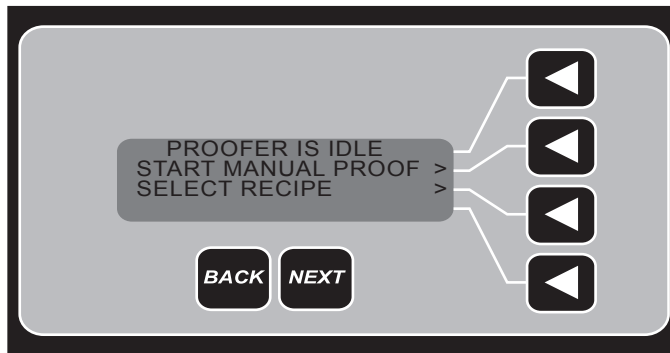

Fig. 7
1. Press the arrow button for SELECT RECIPE (Fig 7).